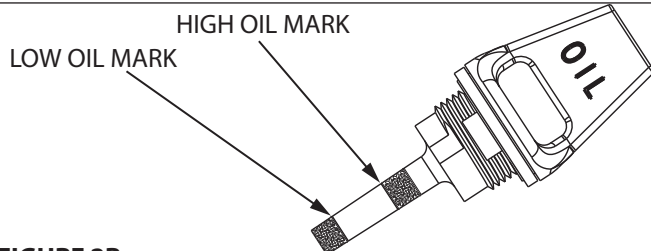

FIGURE 2B
4. Unscrew and check dipstick. If no oil shows on the dipstick, refill so that the oil level appears between the low and high marks on the dipstick. **SEE FIGURE 2B**